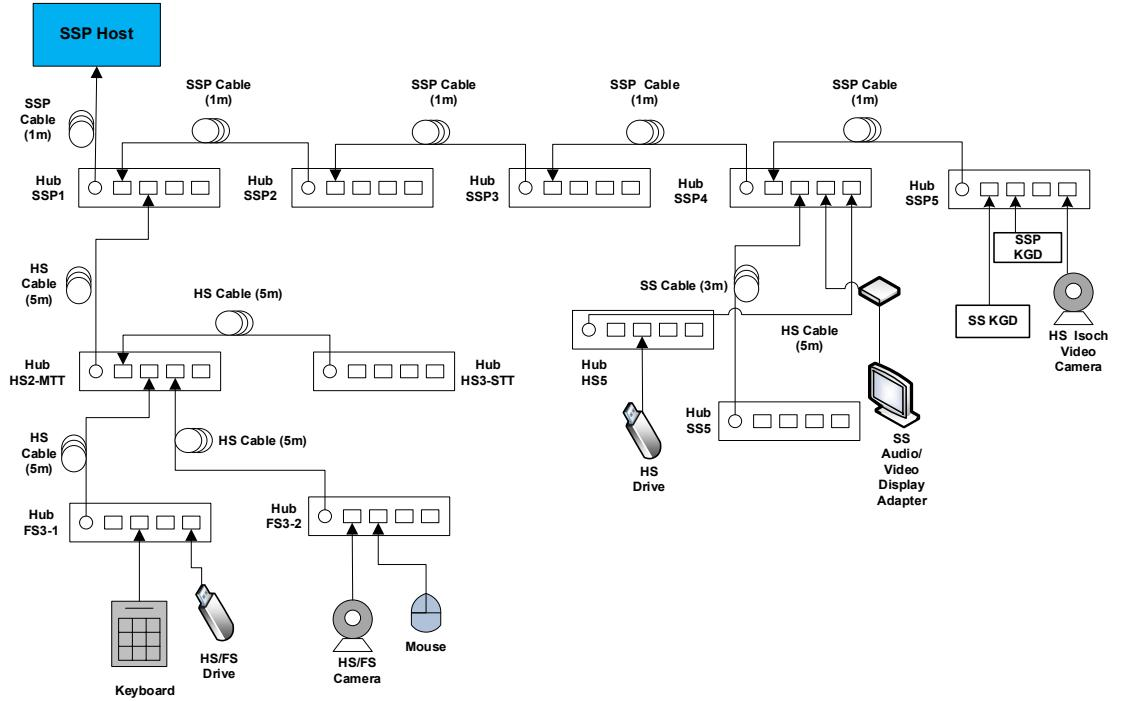

Figure 11-4: Modified SSP Host Interoperability Interim Tree (with SSP device and SSP Hubs Interop Tree)
- o Connect the SSP tree as shown in Figure 11-4